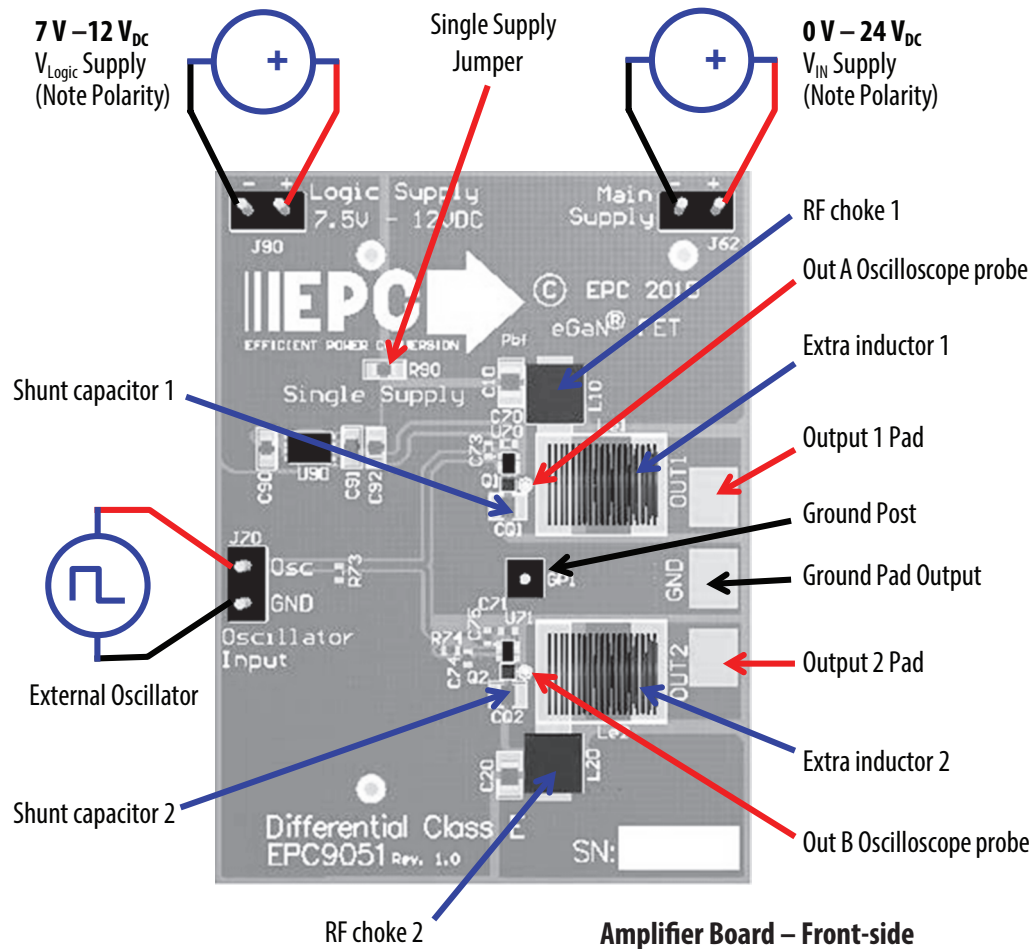

Figure 5: Proper connection and measurement setup for the amplifier board.
2. With power **off**, connect the **main** input power supply bus to J62 as shown in figure 5. Note the polarity of the supply connector. Set the voltage to 0 V.
3. With power **off**, connect the **logic** input power supply bus to J90 as shown in figure 5. Note the polarity of the supply connector. Set the voltage to between 7 V and 12 V.
NOTE. When measuring the high frequency content switch-node, care must be taken to avoid long ground leads. An oscilloscope probe connection (preferred method) has been built into the board to simplify the measurement of the Drain-Source Voltage (shown in figure 5 and figure 6). The choice of oscilloscope probe needs to consider tip capacitance where this will appear in parallel with the shunt capacitance thereby altering the operating point of the amplifier.